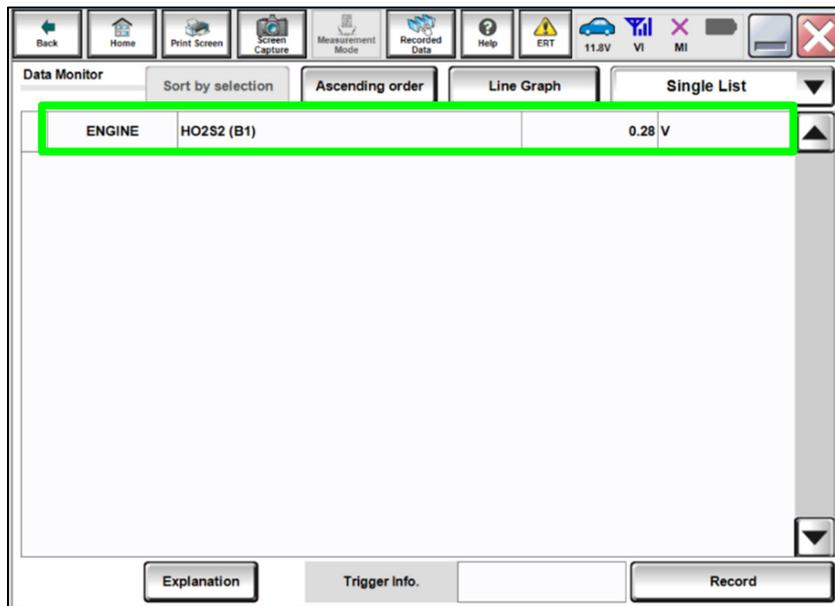

Figure 6
9. Check the Rear O2 Sensor (**HO2S2 (B1)**) voltage in the data monitor screen (Figure 6).